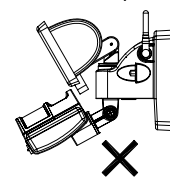

FIGURE 3
- The distance between floodlight and PIR Camera cannot be too close to avoid the heat from the floodlight being hindered the normal operation of PIR Camera. (FIGURE 3)